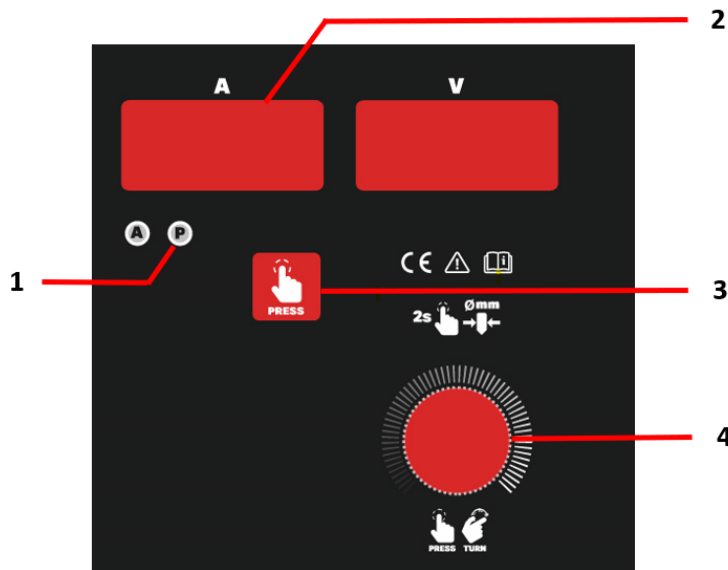

Fig. 11 – Welding memories
- adjust your parameters and press key button (Fig.11 – 3) until LED P (Fig.11 – 1) lits. Then, press parameters adjustment turning button (Fig.11 – 4) for 2 seconds until the digital display shows P1. Then turn parameters adjustment turning button to the desired memory number. Then, press parameters adjustment turning button, the digital display shows MEM.
- Press key button (Fig.11 – 3) until LED P (Fig.11 – 1) lits. Then turn parameters adjustment turning button (Fig.11 – 4) to the desired memory number. Wait 2 seconds are your memory is available.